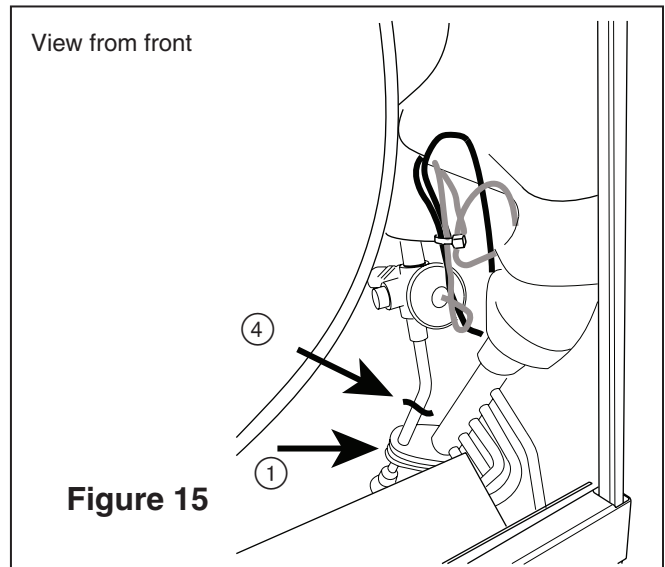

Figure 15
1. Remove the rubber block holding the liquid and vapor line together and discard. See Figure 15.
4. Use tubing cutters and cut the liquid line in the center of the 45 degree angle below the valve. This can be seen in either Figure 15 or 16.